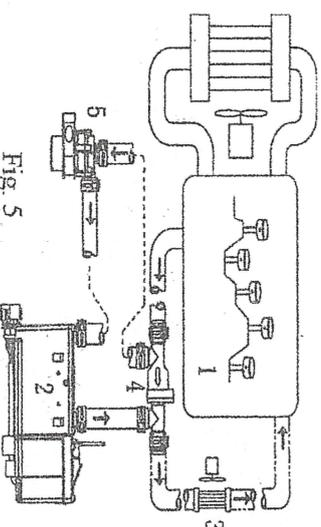

Fig. 5
4.3 Installation of Cooling Liquid Circulation System (As show in Fig.5)